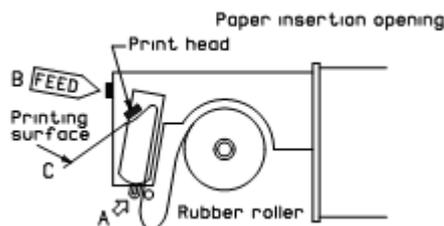

Figure 2
3. Gently push the paper face down into insertion opening (A) in Figure 2. Keep pressing the feed switch (B) until the paper comes out from the print head (C).